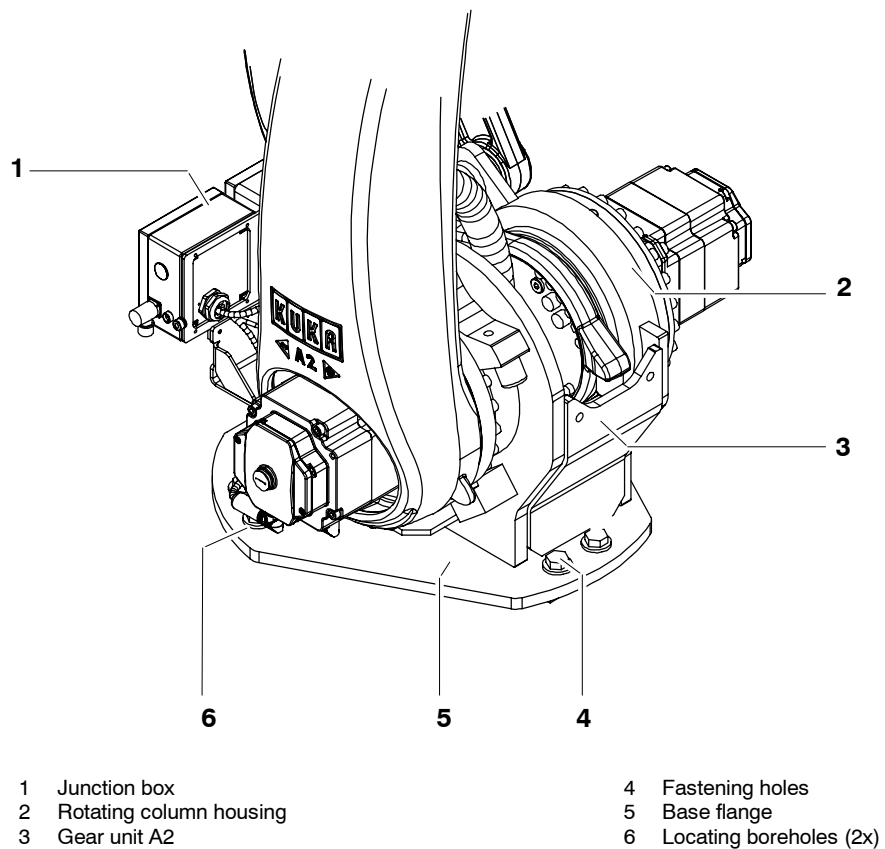

Fig. 7 Structure of rotating column
The rotating column (Fig. 7) is the stationary part of the robot. Its base flange (6) features three attachment holes (5) for holding the robot down and two locating boreholes (4), with which the robot can be placed on two locating pins (accessories, see also robot Chapter 7, "Installation, connection, exchange"). These pins serve to center the robot on the mounting platform, and ensure a consistently reproducible installation position.